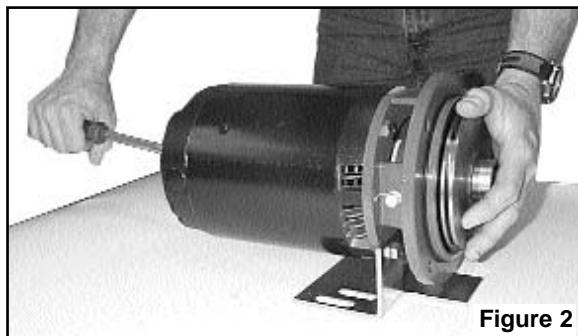

Figure 2
8. Remove motor shaft end cap. Insert a screwdriver in slot of motor shaft. While holding shaft against rotation, unscrew impeller from shaft by turning counterclockwise when facing impeller (Figure 2).